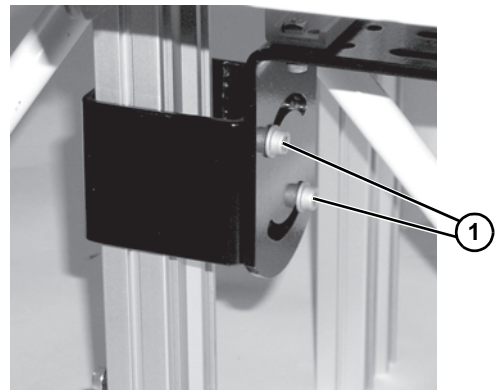
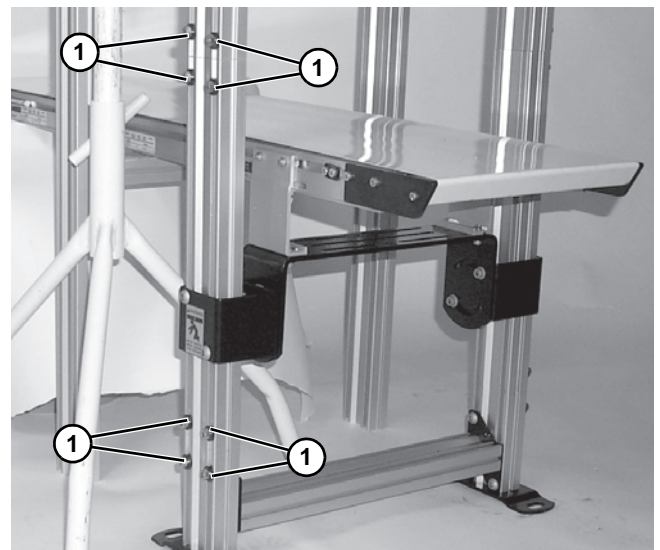

Figure 14
Figure 15
2. Remove two flange socket head screws (Figure 14, item 1) from the conveyor to be serviced.
3. Loosen eight screws (Figure 15, item 1).
- Tighten eight screws (**Figure 15, item 1**) to 130 in-lbs (15 N-m) and two flange socket head screws (**Figure 14, item 1**) to 24 ft-lb (33 N-m).